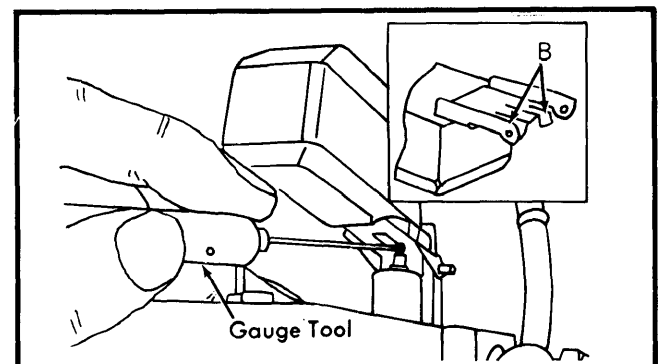

Fig. 3 Float Drop Adjustment Using Angle Gauge
Lift up float. Adjust clearance between needle valve plunger and float lip to .04" (1 mm) by bending float tab (B). See Fig. 3.